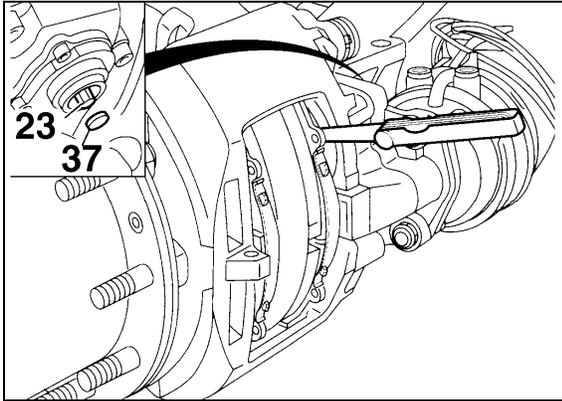

FIGURE 36: RUNNING CLEARANCE 12116
- a) Insert a feeler gauge 0.028 inch (0.7 mm thickness) between tappet and pad backplate (Fig. 36). Turn adjuster pinion clockwise until 0.028 inch (0.7 mm) clearance is achieved. Replace cap (37) (Prévost # 641313).
increases. The adjuster (23, Fig. 36) and turning device turn the threaded tubes by the amount necessary to compensate the wear.